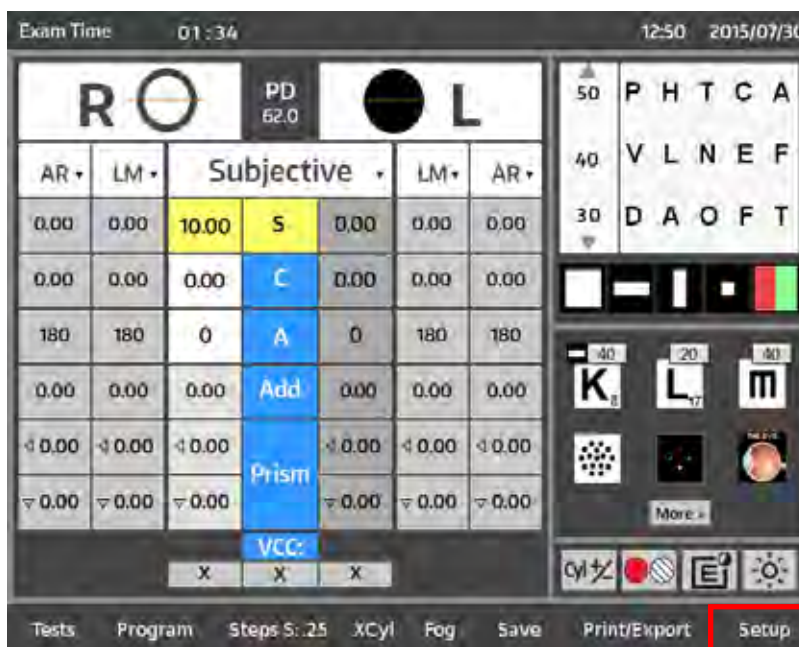

Figure IS-27 Setup
1. Touch **SETUP** in the bottom right corner of the screen to access the Setup screen. Refer to Figure IS-27.